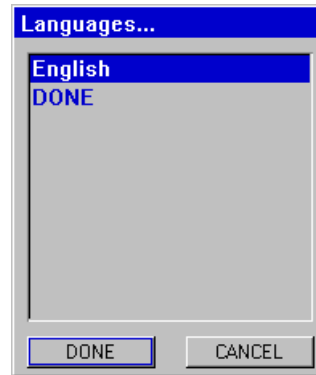

Figure 30: Languages Menu
- 4 Press the rotary knob a second time to open the Languages menu (see Figure 30 below).